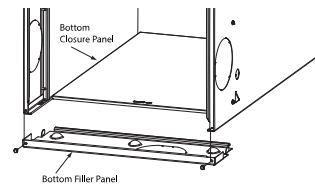

Fig. 9 – Removing Bottom Closure Panel
- Tilt or raise furnace and remove two screws holding bottom filler panel (see Fig. 9).
1. Tilt or raise furnace and remove two screws holding bottom filler panel (see Fig. 9).